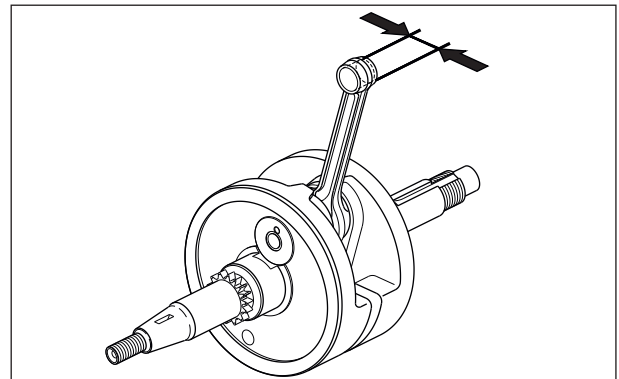

Fig. 3.173
- Measure internal diameter (ID) of the connecting rod small end. If ID is more than the service limit, replace the crankshaft assembly with a new one. (Fig. 3.173)